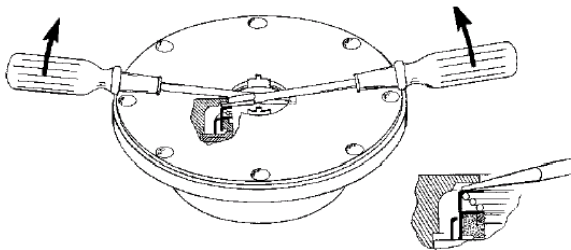

Figure 6
2. Remove the inboard bearing cover capscrews (28) and slide the inboard bearing cover (27A) and gasket (26) off the shaft. Discard the bearing cover gasket.
3. Remove the outboard bearing cover capscrews (28) and slide the outboard bearing cover (27A) and gasket (26) off the shaft. Discard the bearing cover gasket.
5. Remove the head capscrews (21) and carefully pry the head (20) away from the cylinder. Jack screw holes are provided on the STX3 if needed.
6. Slide the head off the shaft. The head O-ring (72), bearing (24), and mechanical seal (153) will come off with the head assembly. Remove and discard the head O-ring.
- a. Pull the bearing (24) from the housing in the head.
- b. To remove the **mechanical seal** (153), use two screw drivers to gently push the backside of the seal jacket to push the seal from the head (see Figure 6). Use care when placing the screwdrivers to prevent damage to the seal faces. Remove and discard mechanical seal O-rings.